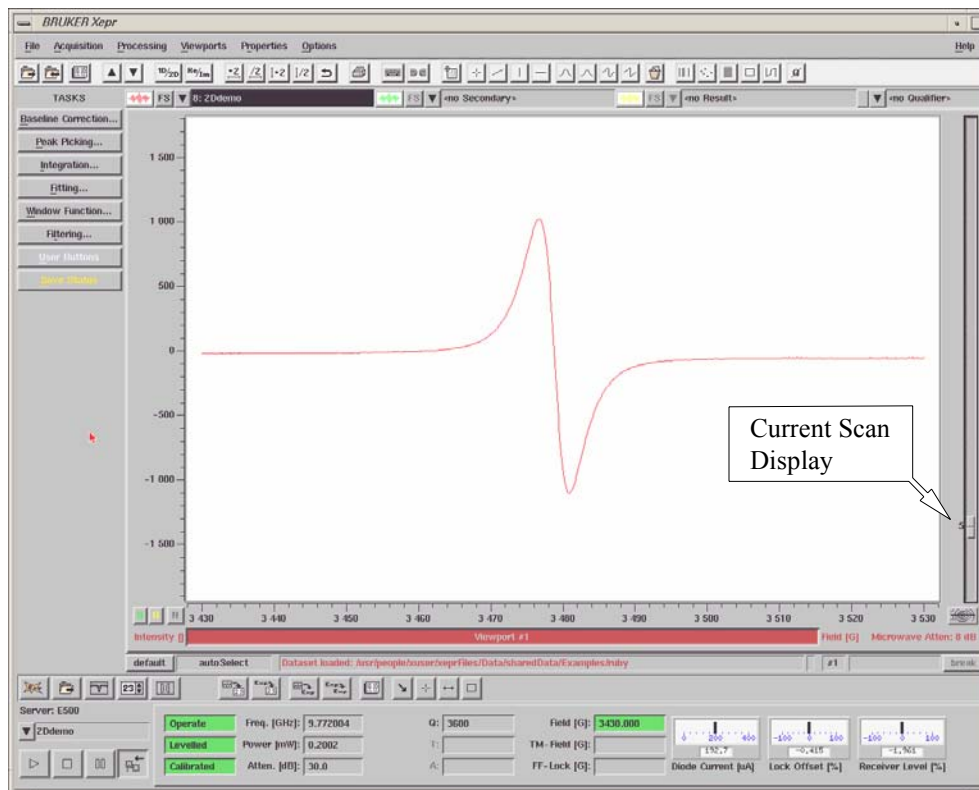

Figure 5-49 Acquiring a 2D spectrum.
8. **Click on Run to acquire your 2D data set.** This will initiate the first of 31 scans with the power decreasing (or the attenuation increasing) in units of 2 dB between each scan. You will notice the scan number updating on the scroll bar of the Viewport (See Figure 5-49.) You can scroll up and down to see one slice at a time after the acquisition finishes.